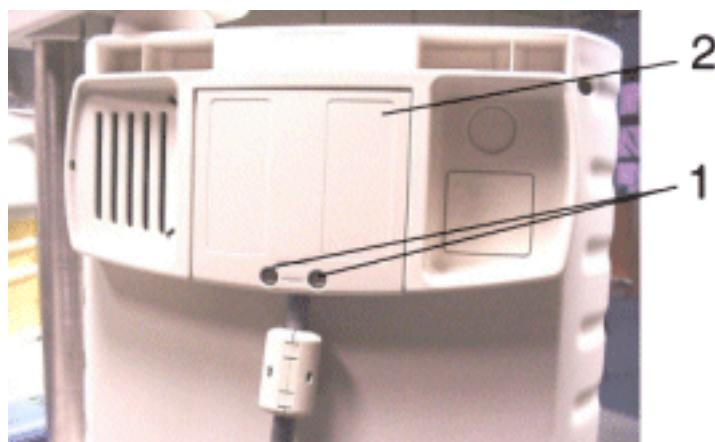

Fig. 98 Rear view of the display housing
11. Secure cover (2) to display housing using screws and washers (1), see Fig. 98.